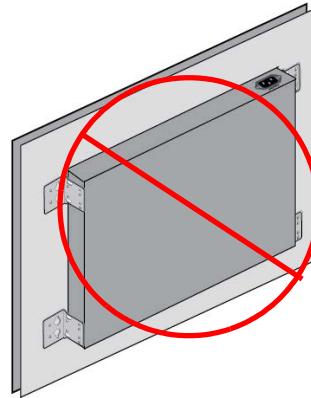

Figure 57. Unsupported Wall Installation of the GS970EMX/20, GS970EMX/28, and GS970EMX/52 Switches
- ❑ Do not install switches with the front panels facing down. Refer to Figure 57.